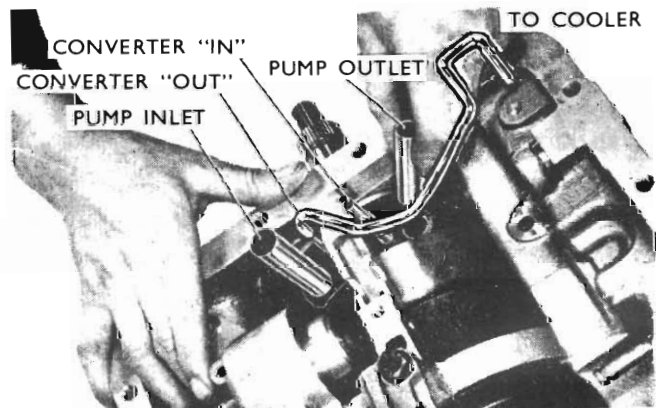

Fig. 54 - Location of tubes
(1) Install the tube connecting the cooler line in casing from the pump adapter drilling (converter "OUT"). (Fig. 54.)
(2) Install the pick-up tube O-ring on intake tube swaged end which is inserted into the pump adapter.
(3) Install the tubes as shown in Fig. 54.